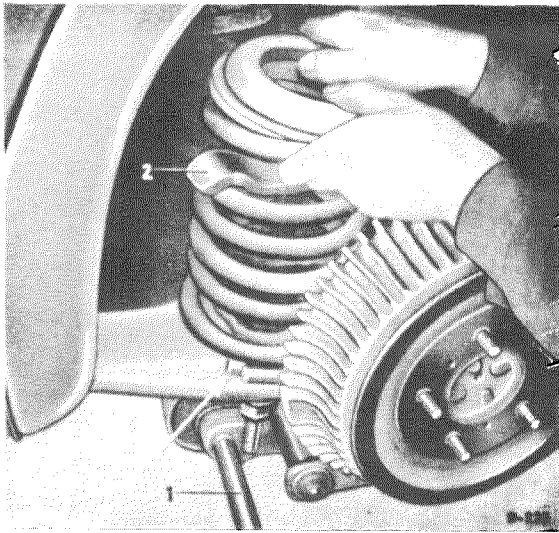

Fig. 35 — 1/3
10. Carefully lower the axle tube, i. e. the jack, and take out the spring (Fig. 35 — 1/3).